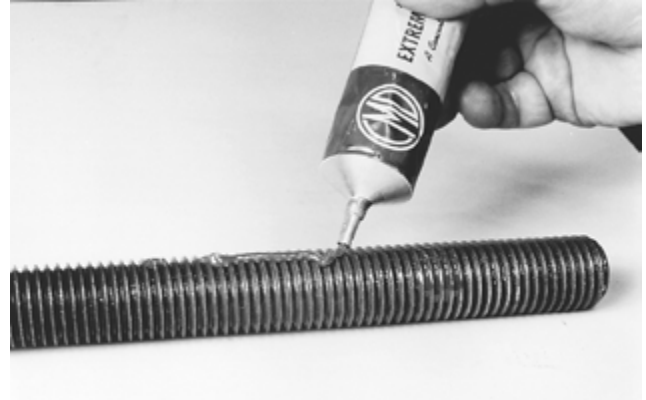

Figure 30: Applying lube to hex head bolt
5. **Liberaly apply** extreme-pressure lube to the threads of the hex head bolt (Figure 30).
NOTICE Do not use Type "M" lubricant on the threads of the hex head bolt, thrust bearing or washers. This may result in binding of the tool and/or damage to hex head bolt threads shown in Figure 30.